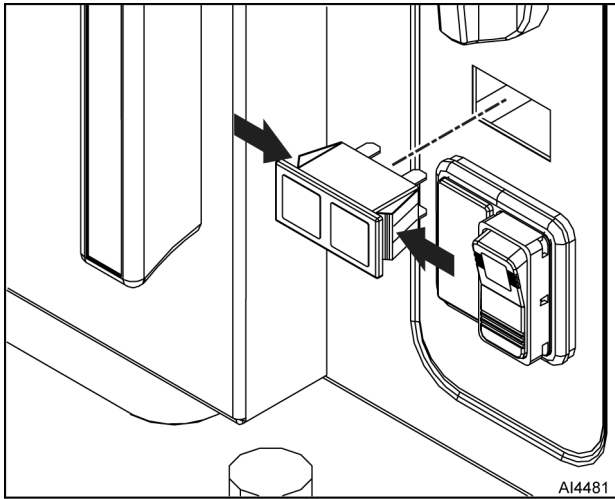

Fig. 59
3. Remove indicator light assembly (Fig. 59) from front panel.